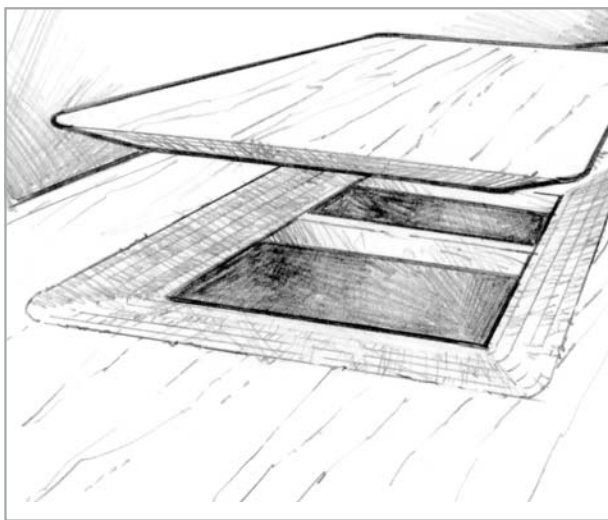

Figure 5-13 Clamp a new repair patch in position with staples or screws.
- a. Use the disc sander to machine a bevel on the inside edge of the replacement panel to match the bevel on the opening. Dry fit the new panel to fit slightly below the existing surface (*Figure 5-13*).